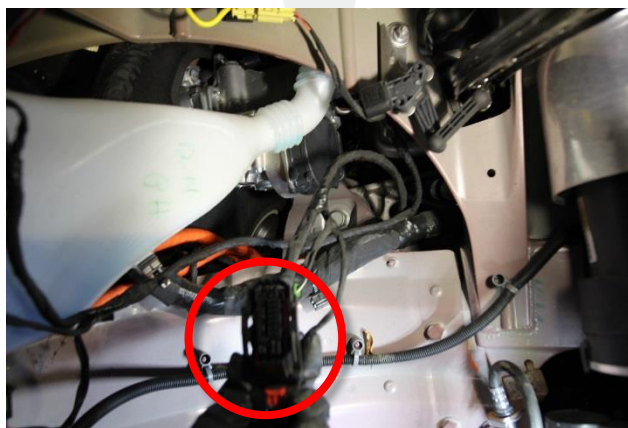

Figure 18 – RHD only
- d. Move the connector X117 into the RH wheelwell area (Figure 18).